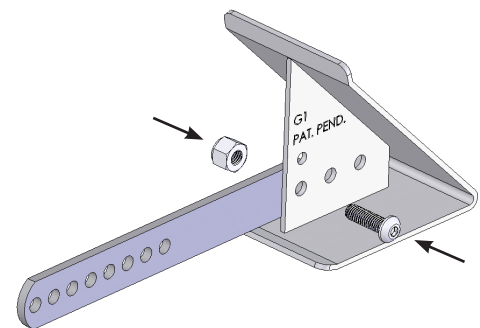

Figure 2
2) Using the same nut and bolt, install the extra single arm onto that same wedge. The bolt should go through the end of the arm with the single hole. *See Figure 2.*